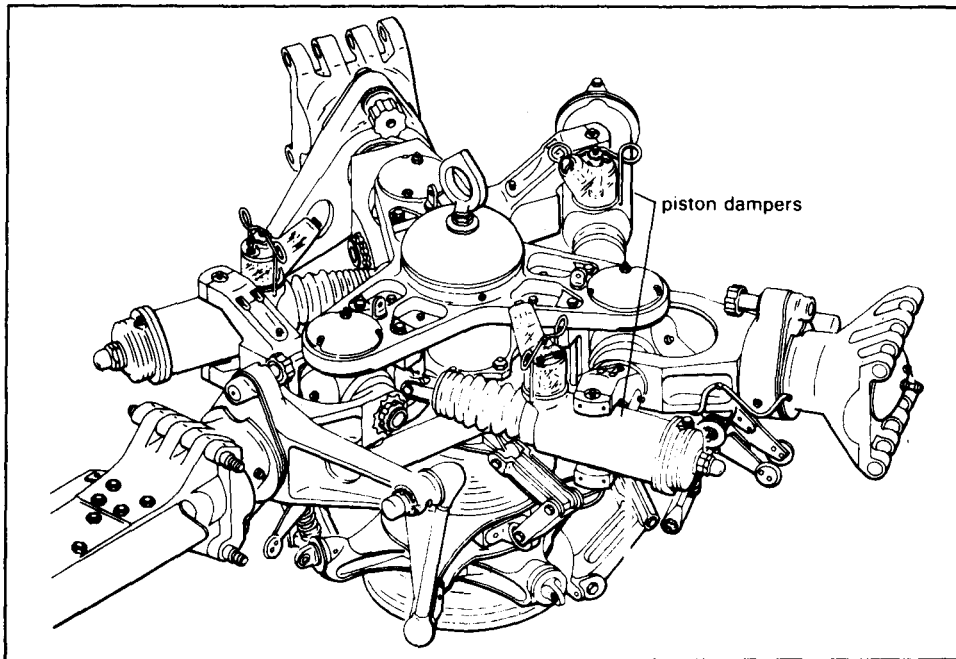

Figure 11-6. Main rotor assembly with piston-type rotor blade dampers.
- **Rotor blade damper.** Piston-type dampers are used on helicopter rotor head assemblies and tail rotor hub assemblies to control lead-lag movements of rotor blades. Note how the dampers are connected in the illustration at Figure 11-6. Lead-lag movements occur when three or more blades are in a set, and they are hinged to the rotor head.